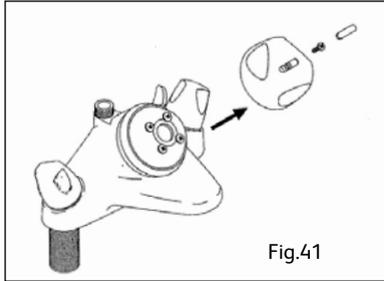

Fig.41
- Mark 2 models:** To remove the On/off control, press down either the left or right hand end of the centre badge as appropriate. This will cause the badge to lift and expose the retaining screw. Remove the screw and pull the control free (Fig 41).